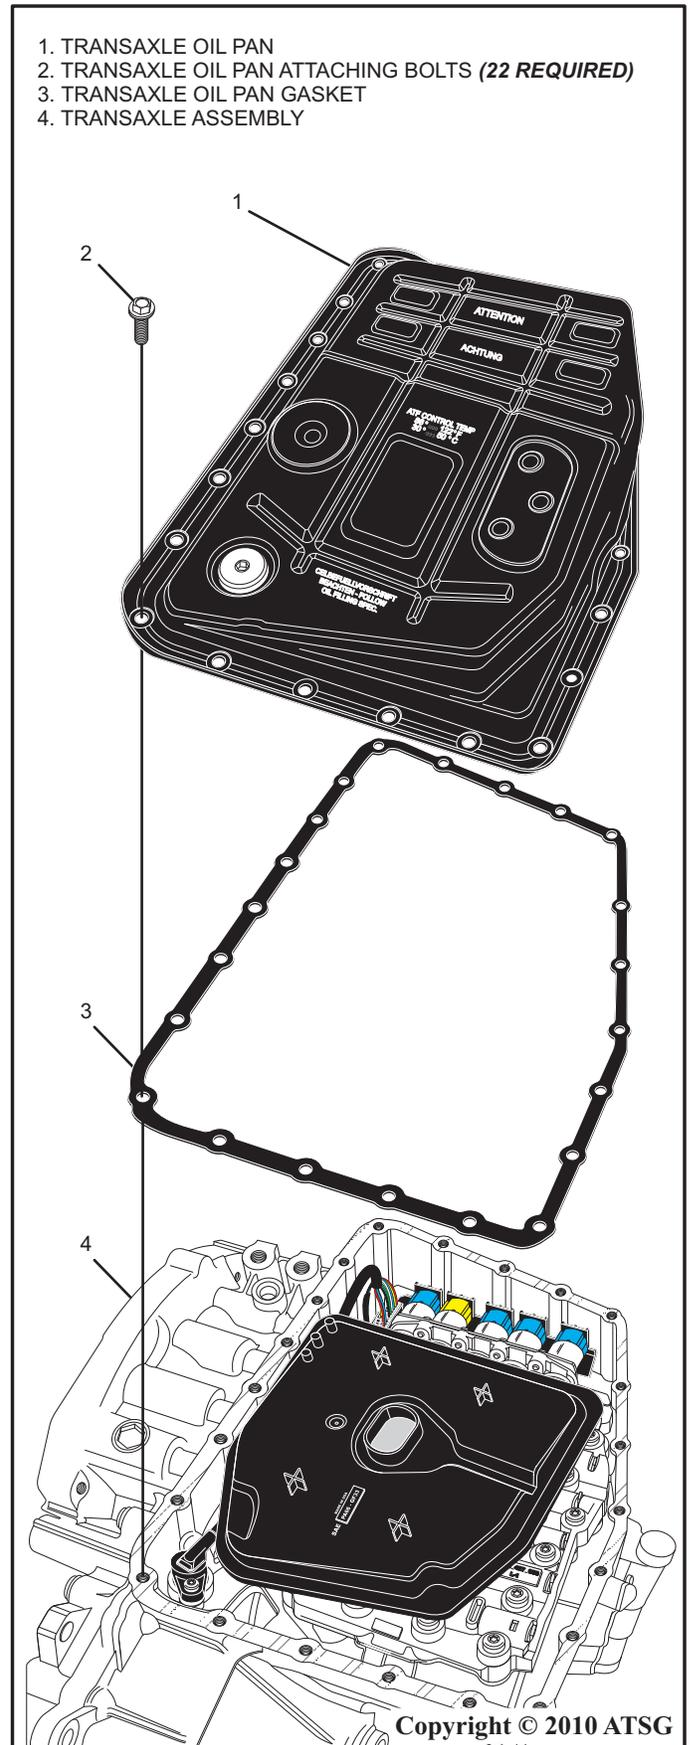

Figure 33
79. Install a new transaxle oil pan gasket onto the case as shown in figure 33.
80. Install the transaxle oil pan onto the case as shown in figure 33.
81. Install the transaxle oil pan attaching bolts (22 required) as shown in figure 33.